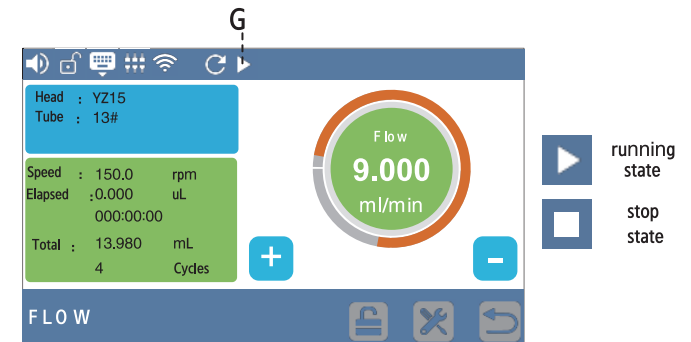

Figure 10 When the Pump is Running Clockwise
H. Temperature Display: Display the current internal temperature of the drive, as shown in Figure 10 above, the current temperature of the drive is 34°C.